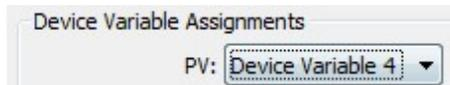

Figure 5.41 Modification of device variables
2. In the dialog box, select Device Variable 4, as shown in Figure 5.41: